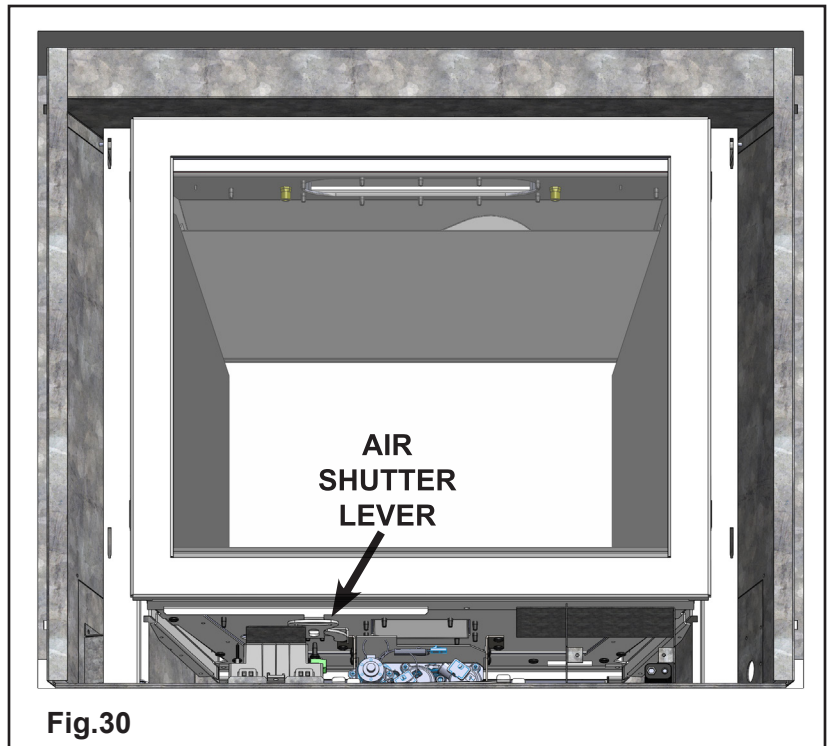

Fig.30
1. Remove the face trim to access the air shutter adjustment lever, it is in the lower left-hand side. **(Fig.30)**